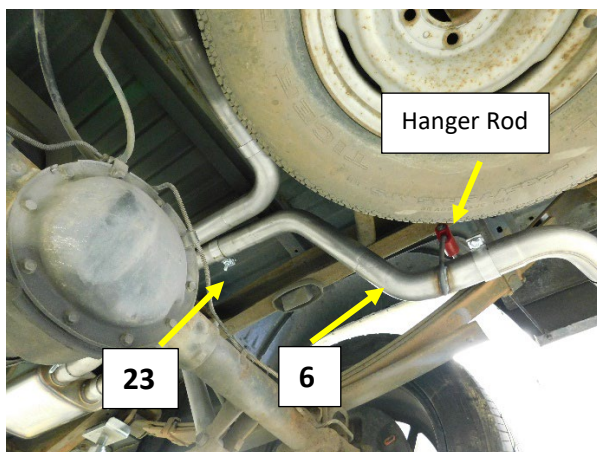

Figure.8
7. Install a 2.5" band clamp (23) on to each of the right (6) and left (8) tail pipe expanded ends. Fig.8/9
8. Install the right tail pipe (6) expanded end on to the right muffler outlet pipe (5) over the axel. Insert the tail pipe hanger rod into the red hanger (14) at the rear frame hangers. Tighten the clamps to allow for adjustment. Fig.8/9